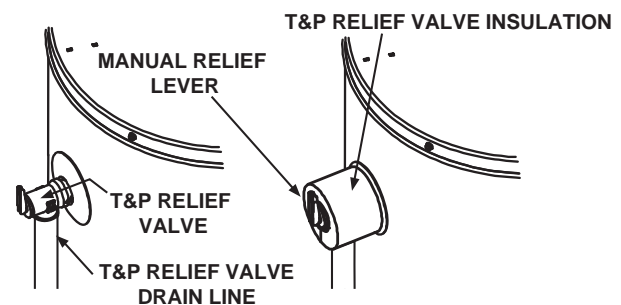

FIGURE 15B.
1. Locate the temperature and pressure relief valve on the water heater (also known as a T&P relief valve). See Figure 15B.
3. Spread the slit open and fit the insulation over the T&P relief valve. See Figure 15B. Apply gentle pressure to the insulation to ensure that it is fully seated on the T&P Relief Valve. Once seated, secure the insulation with duct tape, electrical tape, or equivalent.
- IMPORTANT:** The insulation or tape should not block or cover the T&P relief valve drain opening. Also, the insulation or tape should not block or hinder access to the manual relief lever (Figure 15B). Ensure that a discharge pipe is installed into the T&P valve discharge opening per the instructions in this manual.